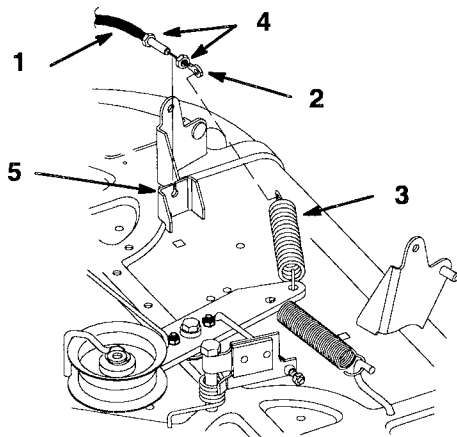

Figure 45
10. Remove first jam nut and thread second jam nut onto the blade control (PTO) cable all the way. Rout cable through slot in deck bracket and thread second jam nut onto cable (Fig. 45).
11. Hook end of blade control (PTO) cable onto idler spring (Fig. 45).